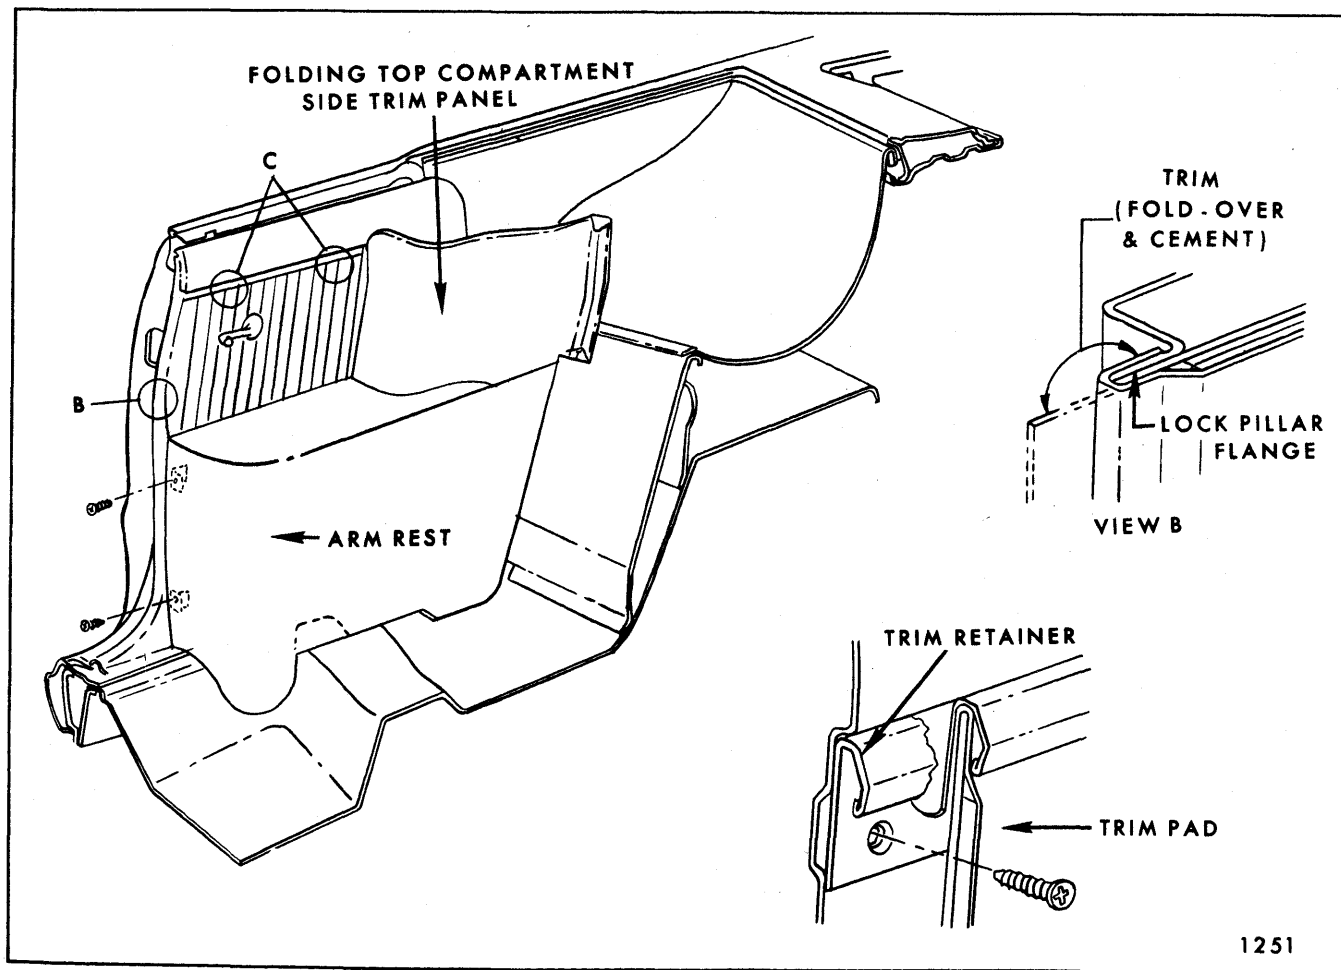

Fig. 8-9—Rear Quarter Trim Assembly - Convertible Styles
4. Carefully detach approximately three inches of the upper front cemented edge of trim material from body lock pillar pinchweld flange (Fig. 8-9, View "B"). Carefully bend or bow trim inboard sufficiently to disengage upper edge of trim from under finishing molding retainer (Fig. 8-9, View "C").
The finishing molding retainer (Fig. 8-9, View "C") is retained by screws and can be removed at this point, where required.
6. To install rear quarter trim assembly, reverse removal procedure. Prior to installation of pinchweld finishing strip, recement forward edge of trim to pinchweld flange (see Fig. 8-9, View "B").